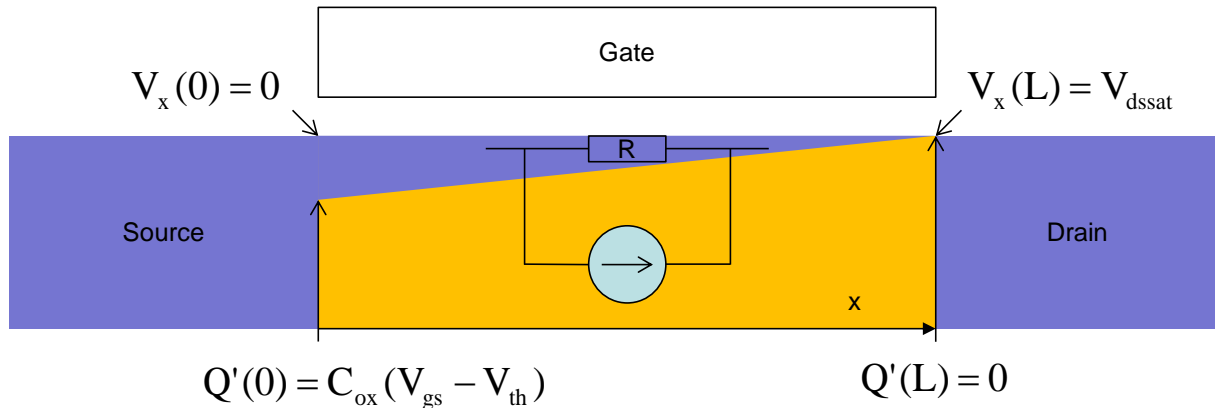

Figure 2: Thermal noise in the MOSFET channel
The formula must be adjusted for larger V_{ds} . The channel charge per area varies from the value given by (9) on the source side to zero on the drain side, where the channel pinches off (Figure 2).
Let us denote the potential in the channel region (at the boundary between silicon and gate oxide) as $V_x(x)$. Coordinate x goes from source to drain (Figure 2). Let us define V_x with respect to the source potential V_s . That means: